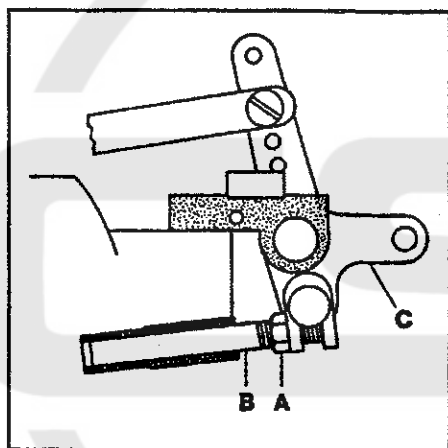
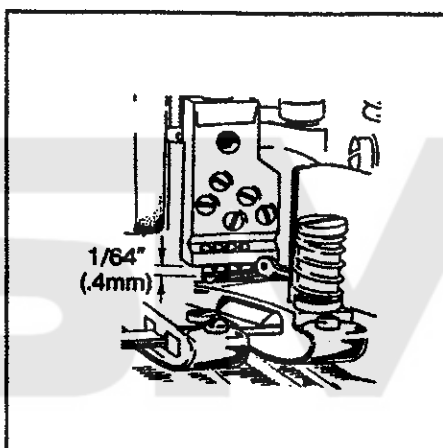

FIG. 23
FIG. 24
The presser foot lifter stop plunger must be set so the hook will not hit the bottom of the needle head as the presser foot is being lifted. Position the needle bar to its lowest point of travel. Loosen nut (A, Fig. 23) and turn plunger (B) clockwise until it strikes the crankshaft counterweight. While applying pressure to lifter (C) to lift the foot, back out of the plunger until the distance between the hook and the underside of the needle head is  $1/64"$  (0.4mm) (see Fig. 24). Tighten nut (A, Fig. 23).